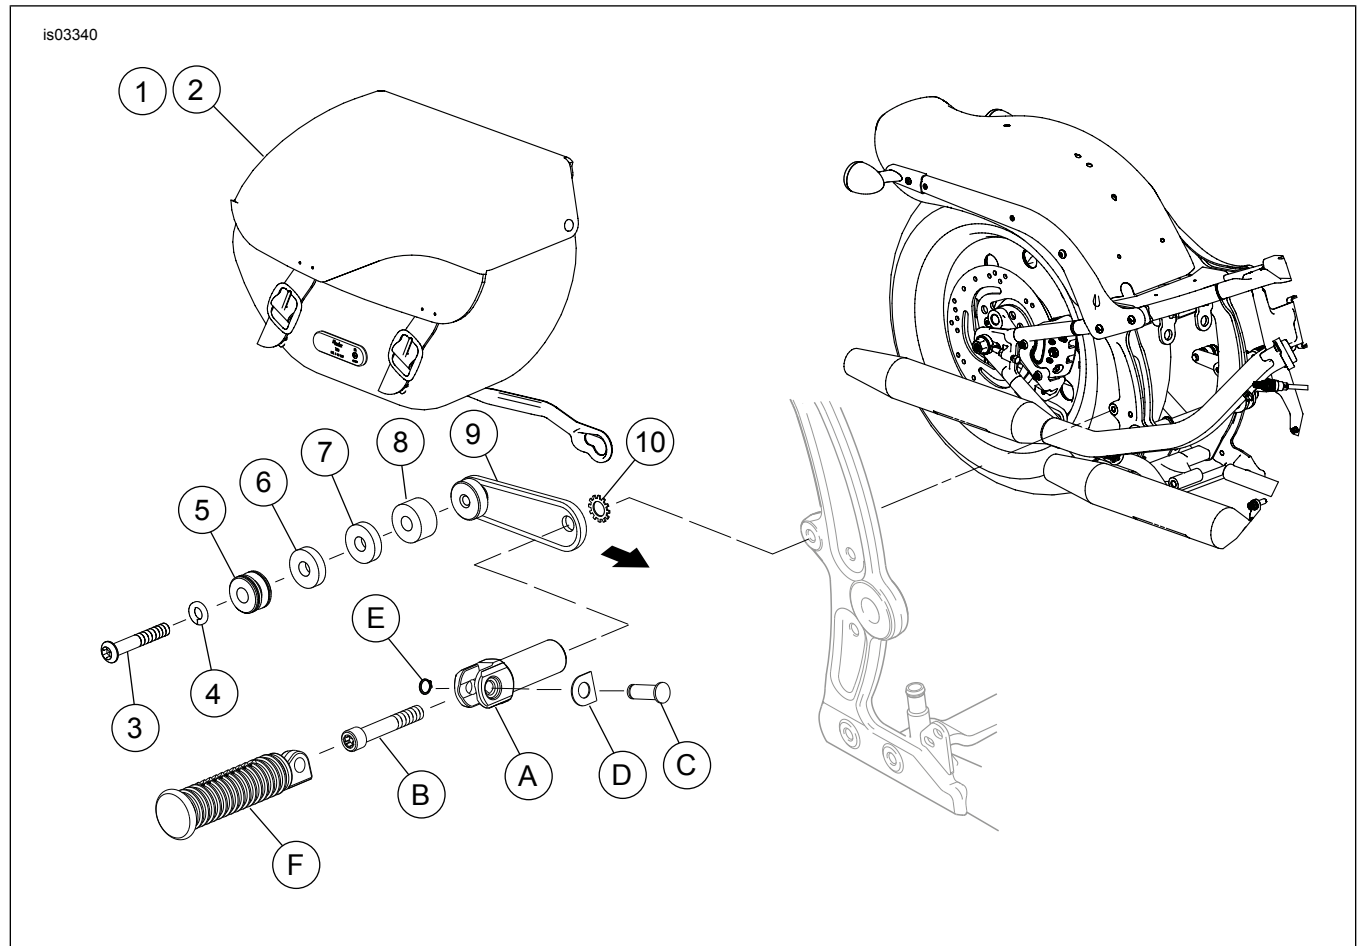
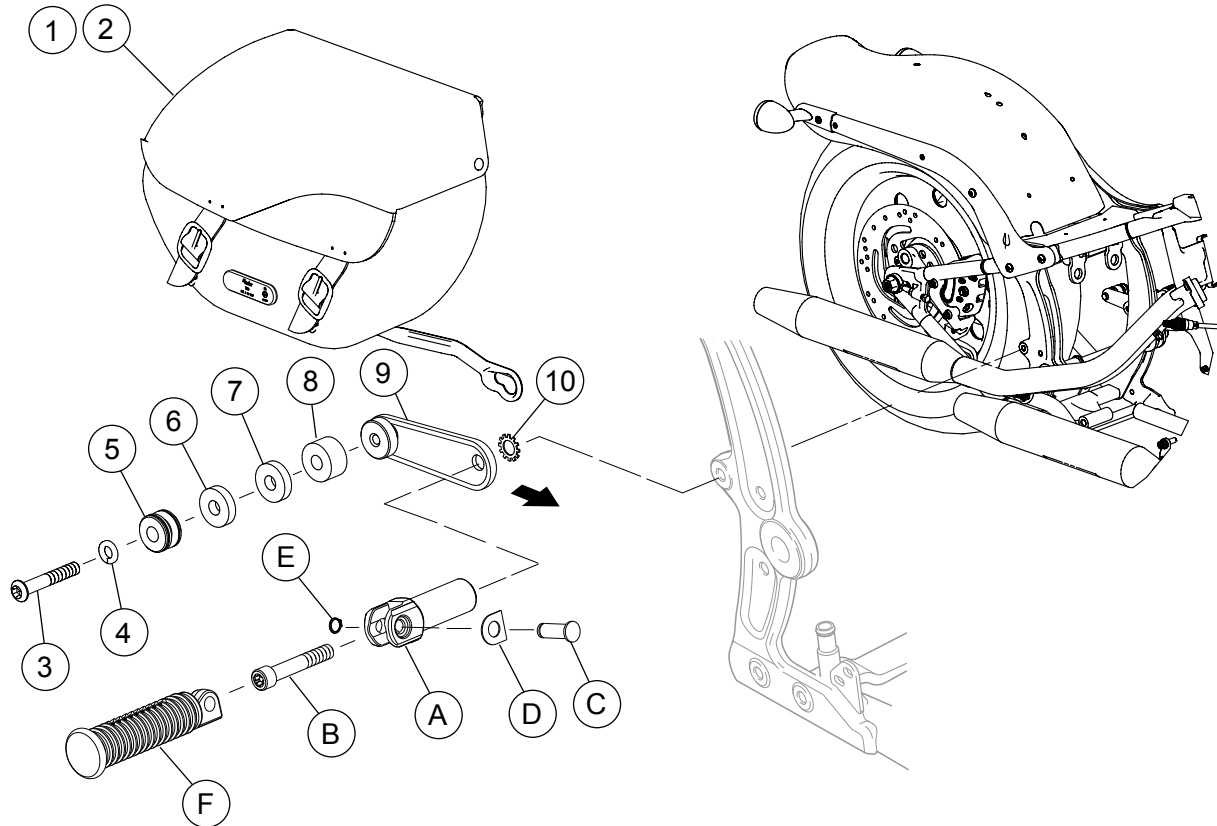

Figure 7. Service Parts: 2003-Later FLST/C and 2003-2005 FX Softail (Except FXSTD) Detachable Saddlebag Kit
Figure 8. Service Parts: 2006-Later FX Softail (Except FXSTD) Detachable Saddlebag Kit
- See Figure 7 or Figure 8. Rotate lower front support (9) (with spacer(s) and mini docking point installed) so the lower front mini docking point (5) is fully seated into the smaller diameter of saddlebag lower support arm keyhole slot.
- Rotate footpeg support (A) so the footpeg slot angles up toward the rear at a 10-15 degree angle from vertical.
- While holding lower front support (9) to prevent rotation, tighten screw to 47.5–61 N·m (35–45 ft-lbs) using an extended T-50 TORX drive head.